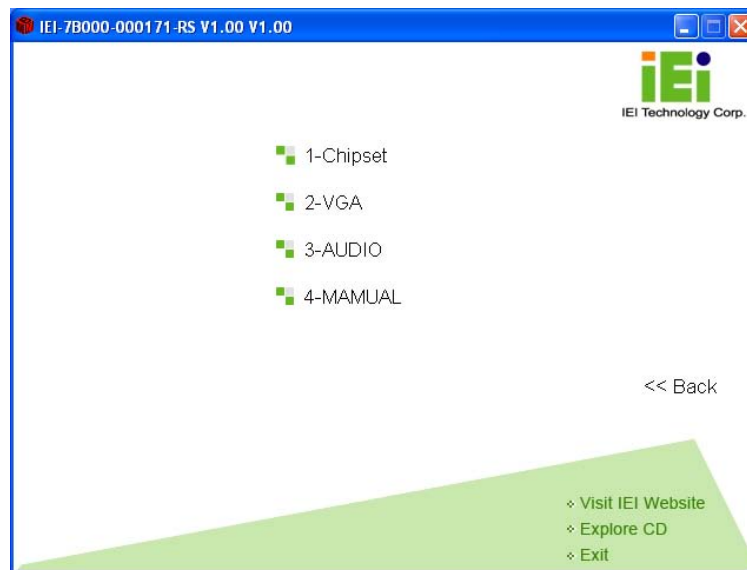

Figure 8-2: Available Drivers
Step 4: A new screen with a list of available drivers appears (**Figure 8-2**).
Step 5: Select the driver to install from the list in **Figure 8-2**. Detailed driver installation instructions follow below.
Step 1: Select Chipset from the list in **Figure 8-2**.
Step 1: Select VGA from the list in **Figure 8-2**.
Step 1: Select AUDIO from the list in **Figure 8-2**.